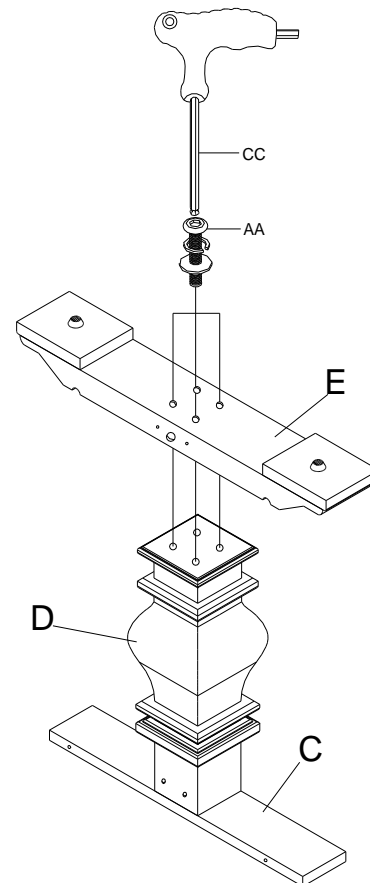

Fig.2
- Upside down Pedestal (D) which installed to Platform (C) at step 1.
*(Reference Fig.2)*
- Locate Base (E) on bottom of Pedestal (D),
- Locate Bolts (AA) into drilled holes on Base (D) and tighten them through Pedestal by Allen Key (CC) provided.
- Do same above steps for another Base (E).